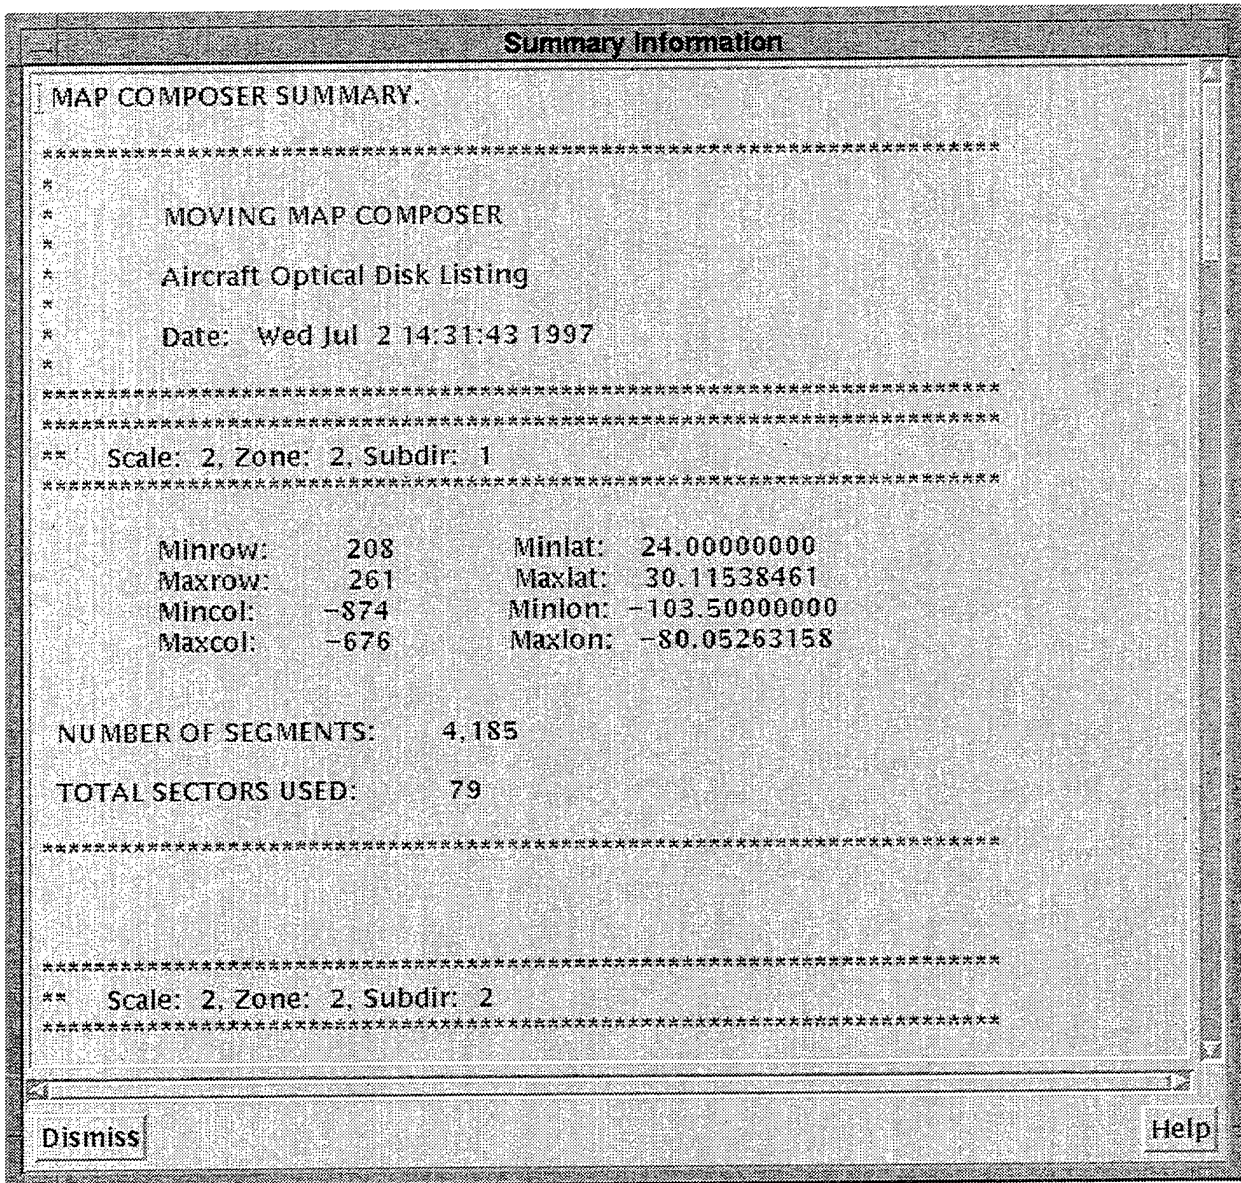

Fig. 32 — Sample AOD summary listing
**3.3.6.1.1 Generate AOD Summary**—Generates a summary of any existing AOD composition, composition in development, or final AOD image (Fig. 32). For each zone, scale, and subdirectory in the composition or image file, *AOD Summary* provides the minimum and maximum latitude and longitude, the number of CAC segments defined, and the number of sectors that would be used if the image were written to an AOD. The summary also gives the total number of bytes in the composition.